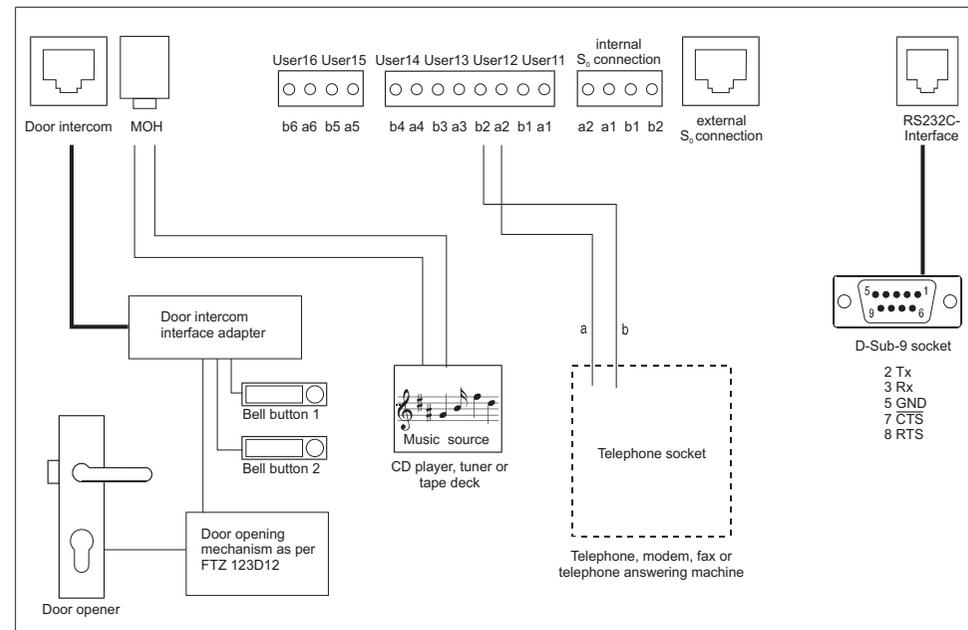

Fig. 5-2: Connecting the wiring to the family 116
Only connect the lines and cables on the telephone unit when the 230 V power cable has been disconnected and when there is no link to the public telephone network. On the following pages (Fig 5-2 to 5-5) you will find information on the terminal markings of the junction boxes that can be used and the assignment of the installation cable wires, as well as installation diagrams for the ISDN Network Terminator connection with ISDN junction boxes or Universal junction boxes.
- For telephones with adjustable flash or recall (R) buttons, set the flash time at 80 ms. (see 5.9, "Setting the correct flash time")
- Insert the Western (RJ-45) plug of the exchange cable with one end in the unit's Western socket (see Fig 5-2/5-4) and the other end in the telecommunication socket (network termination) or telephone company Network Terminator (NT) (see 5.4, point 6).